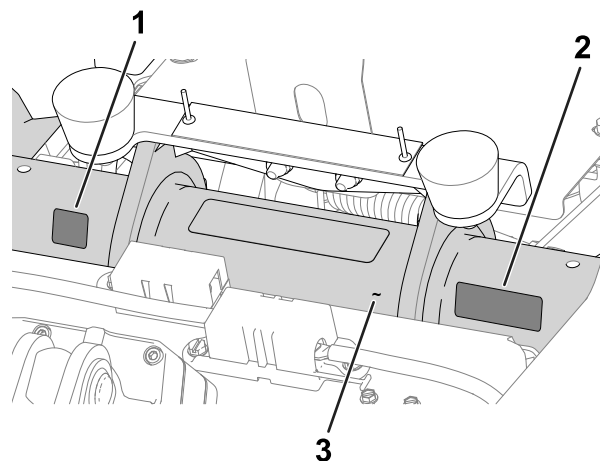

Figure 11
- **Production year decal** and **CE mark decal**: apply the decals on the frame tube below the seat and serial plate; refer to Figure 11.